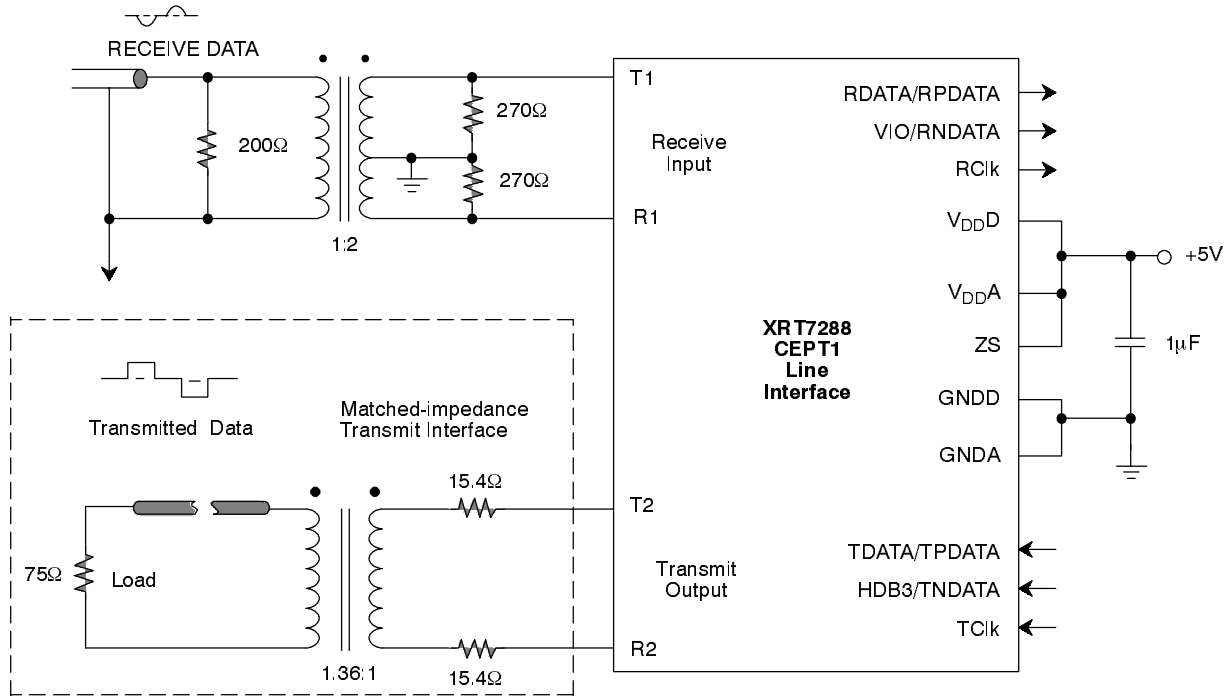
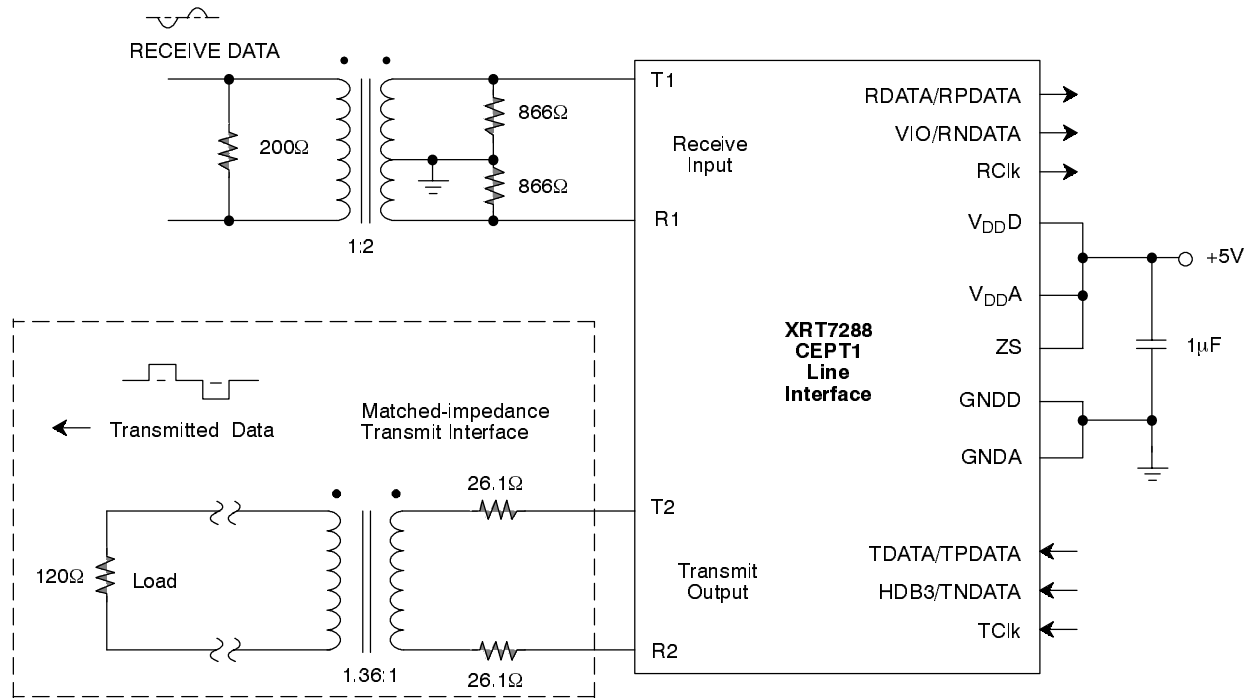

Figure 2. Typical Application Diagram for Coaxial Environment
Figure 3. Typical Application Diagram for Shielded Twisted-Pair Environment
⁵ All measurements are with a matched-impedance transmit interface (see Figure 2. and Figure 3.) and with V_{DD} or GND applied to digital input leads.
- ⁵ All measurements are with a matched-impedance transmit interface (see Figure 2. and Figure 3.) and with V_{DD} or GND applied to digital input leads.
The XRT7288 device is a fully integrated line interface that requires only two transformers, three input termination resistors, and two output impedance-matching resistors to provide a bidirectional line interface between a 2.048 Mbits/s CEPT datalink and terminal equipment. Typical application diagrams are shown in *Figure 2.* and *Figure 3.* for 75Ω coaxial cable and 120Ω shielded twisted-pair operation, respectively.
converter, receive converter, and logic. The transmit and receive converters process information signals through the device in the transmit and receive directions, respectively; the logic is the control and status interface for the device. *Figure 2.* and *Figure 3.* include a matched-impedance transmit-interface section in order to match the output impedance of the transmitter to the line. See *Table 1* for the G.703/CH-PTT specifications for transmit-interface return loss.